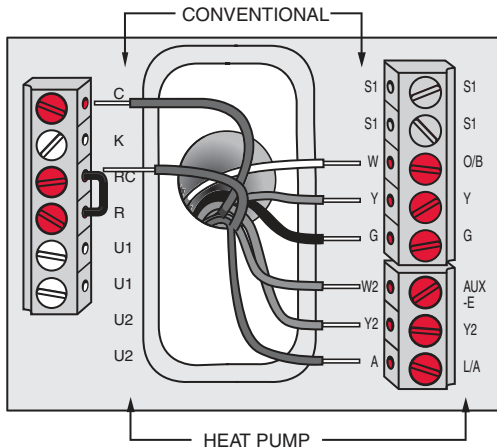

Fig. 19. Thermostat wired directly to equipment.
1. Refer to Fig. 19. See Table 11 on page 119 for terminal designations and "Wiring" beginning on page 118 for more information.